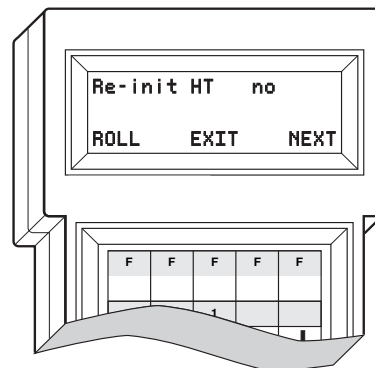

Figure 9. HHT Setup Display
1. Plug the HHT into the DIAG. connector. Enable the setup mode by pressing the **SHIFT**, **CTRL** and **SPACE** keys in sequence. The display shown in Figure 9 appears.